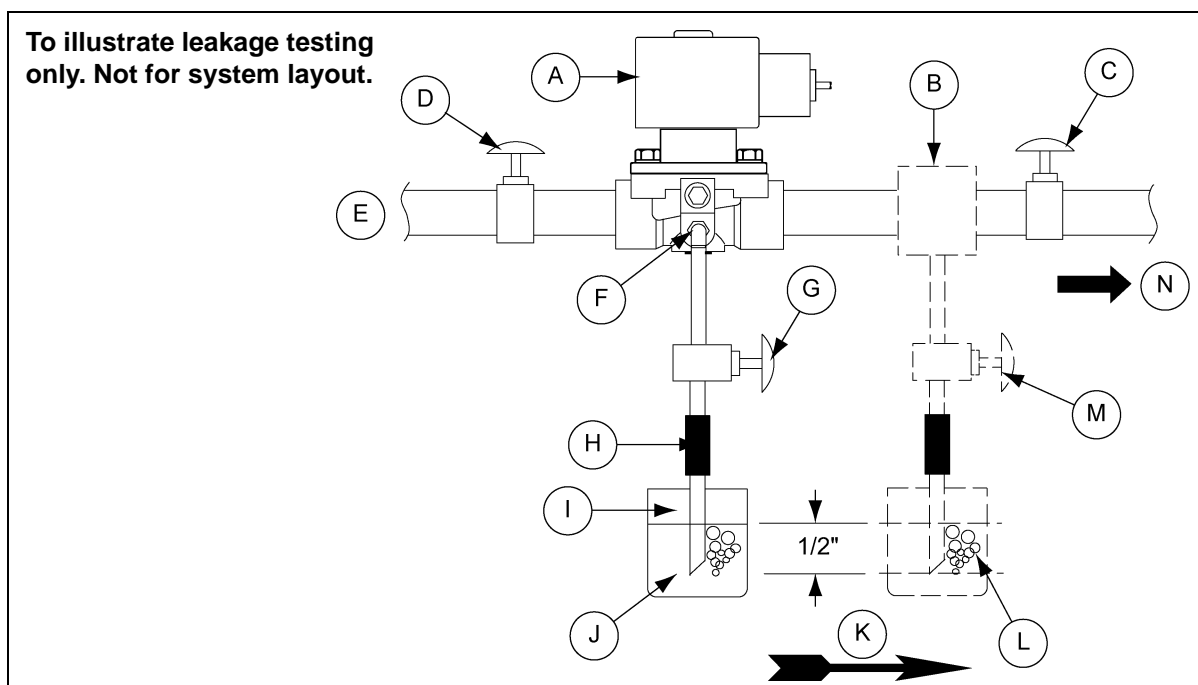

Figure 15A *Testing for Internal Seat Leakage*
2. Operate the safety shut off valve(s) through five (5) cycles. Listen carefully for the solenoid coil to click indicating proper operation.
4. Shut off the upstream manual shut off valve and de-energize the safety shut off valve (A). Remove the plug from the leak test tap (B) or downstream pressure tap (F) in the valve body. Connect leak test equipment with the test petcock (G) in the closed position. (See Figure 15A.)